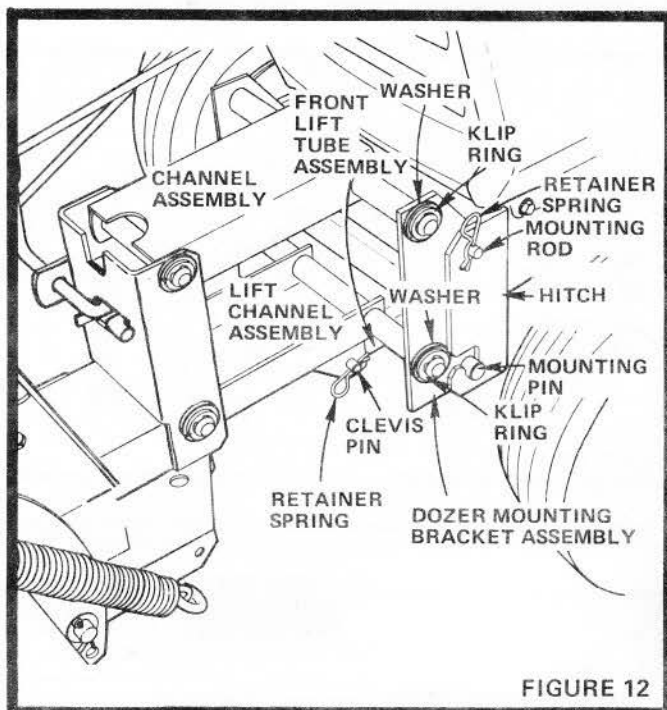

FIGURE 12
9. Remove Rear Pivot Shafts in Lift Channel Assembly and Channel Assembly by removing Klip Rings (Fig. 12). Assemble Lift Channel Assembly and Channel Assembly to Dozer Mounting Bracket assembly with Rear Pivot Shafts. Replace Washers and Klip Rings.
10. Insert Mounting Pins of Dozer Mounting Bracket Assembly into Hitch slots (Fig. 12).
11. Remove one Retainer Spring from Mounting Rod. Remove Mounting Rod from Blade Assembly (Fig. 11). NOTE: TURN FRONT TRACTOR WHEELS TO THE RIGHT TO HELP WITH THE REMOVAL AND INSERTION OF MOUNTING ROD. Insert Mounting Rod thru holes in Front Mounting Bracket and Dozer Mounting Bracket Assembly (Fig. 12). Secure with Retainer Spring.
19. Attach Front Lift Tube Assembly to the Lift Channel Assembly (Fig. 12) using:
4. Remove the Retainer Spring in Mounting Rod at L.H. side of Dozer (Fig. 12). Slide Mounting Rod from Front Mounting Bracket and Dozer Mounting Bracket Assembly. NOTE: FRONT TRACTOR WHEELS MAY NEED TO BE TURNED TO THE RIGHT.
5. Lift Dozer Mounting Bracket up so Mounting Pins are free of Front Mounting Bracket slots (Fig. 12).
6. Retainer Spring and Clevis Pin may be removed from Front Tube Assembly (Fig. 12), or Dozer pulled forward to free Dozer from Tractor.